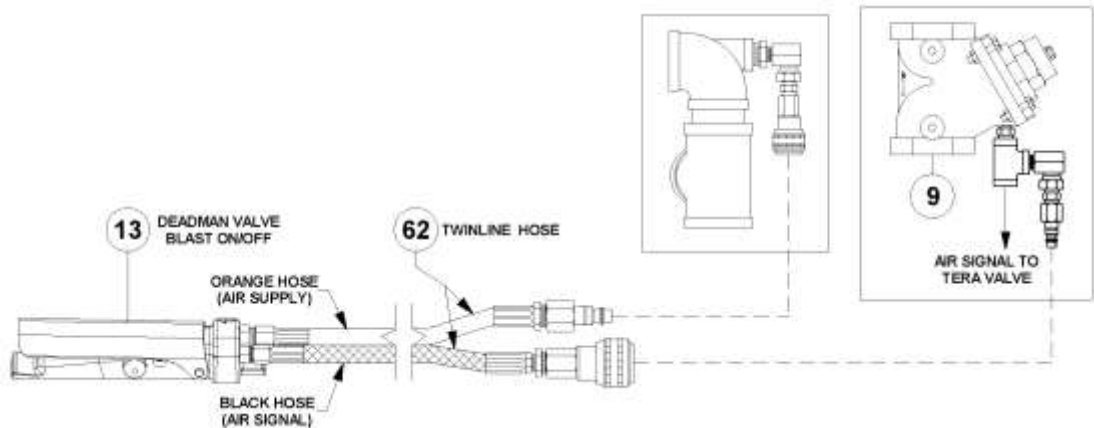

Figure 5.4 – TeraValve™ Pneumatic Blast Control System
5.9.1. Pneumatic Deadman System: When the pneumatic deadman lever (#12) is pressed down, air supply from the orange hose of the twinline hose (#15) flows into the black hose. Air flows through the black hose to the signal ports of the auto air valve (#9) and TeraValve (#14) causing both to open. When the deadman lever is released, the air signal is cut off and the remaining air vents from the deadman and the quick exhaust valve (#49). The quick exhaust valve provides a quicker blast shutdown like the function of the control valve (#20) in an electric system. See Figure 5.4 and the drawing in Section 9.1. **Note:** The quick exhaust valve (#49) is not required for electric units or systems with abrasive cutoff.